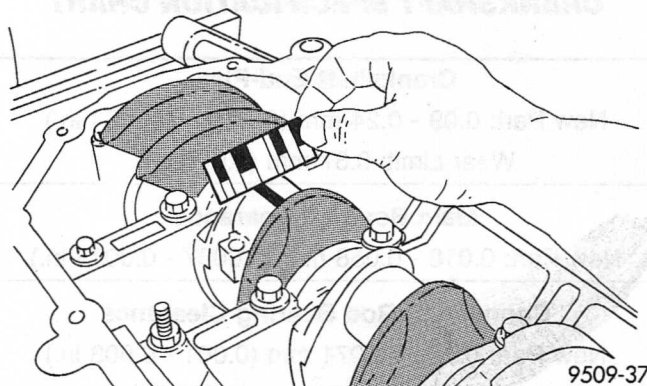

Fig. 9 Measuring Plastigage Width
(1) Rotate the crankshaft until the connecting rod to be checked is at the bottom of its stroke.
(2) Remove oil film from surface to be checked. Plastigage is soluble in oil.
(3) Place a piece of Plastigage across the entire width of the bearing shell in the bearing cap approximately 6.35 mm (1/4 in.) off center and away from the oil hole (Fig. 9). In addition, suspect areas can be checked by placing plastigage in the suspect area.
(4) Before assembling the rod cap with Plastigage in place, the crankshaft must be rotated until the connecting rod being checked starts moving toward the top of the engine. Only then should the cap be assembled and torqued to specifications. Do not rotate the crankshaft while assembling the cap or the Plastigage may be smeared, giving inaccurate results.
(5) Remove the bearing cap and compare the width of the flattened Plastigage (Fig. 9) with the metric scale provided on the package. Locate the band closest to the same width. This band shows the amount of clearance in thousandths of a millimeter. Differ-